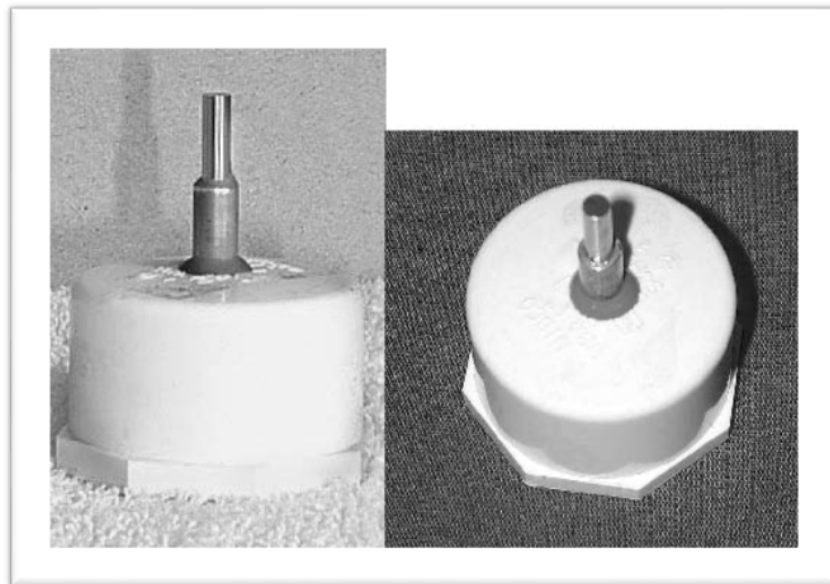

Figure 2 -Plastic cap with gage pin and drill collar sticking out, all epoxied together (gray)
4. When you have it put together and the epoxy is still wet, put it on a flat surface and slide the gage pin down until it bottoms out where the plastic cap sits on the flat surface. It will look something like Figure 2, below, when done. Make sure the gage pin doesn't dry at an angle (it should be parallel to the iron pipe, keep checking visually as it dries). If the pin isn't sticking straight out of the cap, your drop tester will not work properly.